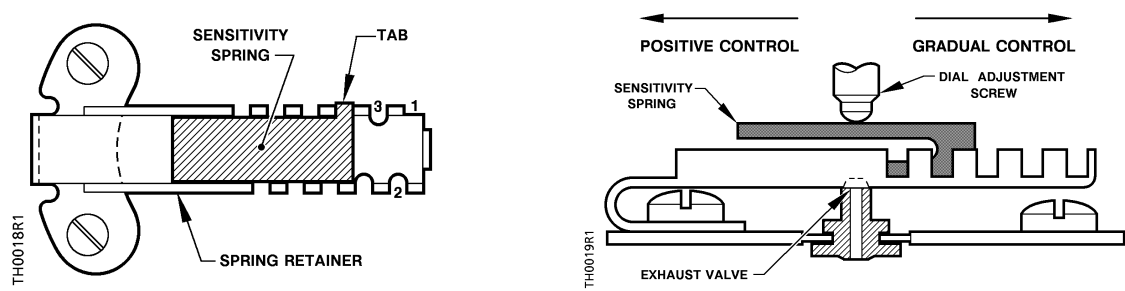

Figure 10. Sensitivity Spring Setting.
4. Move the sensitivity spring to the new position. See Figure 10. Table 4 gives the sensitivity spring tab location and the corresponding sensitivity value.